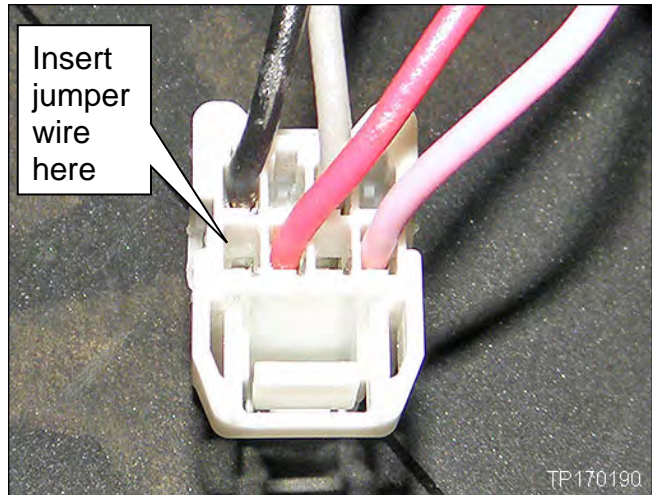

Figure 4
NOTE: In the next step, you will insert a jumper wire in the slot shown in Figure 4.
10. Insert the jumper wire as shown (see Figures 4 and 5).